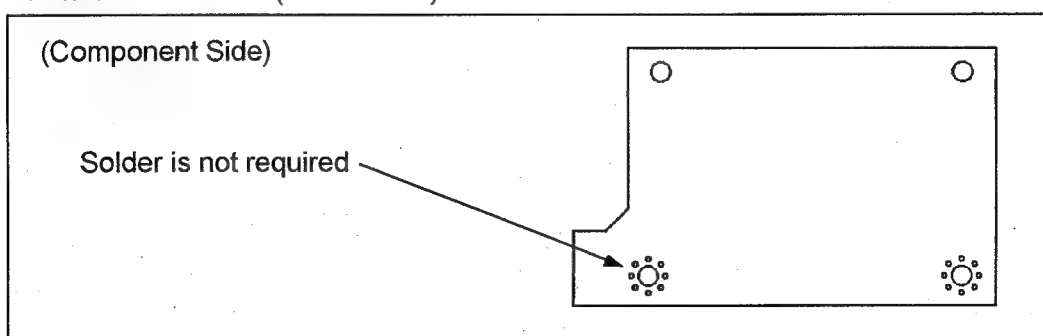

Fig. 5
- 3). Solder of the screw hole is absorbed on the component side as shown in figure 5.